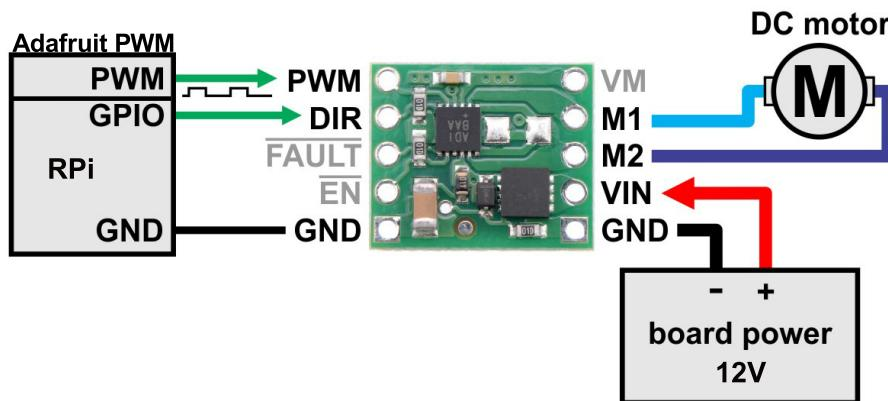

Figure 16: The Motor Driver board and PWM interface diagram. From <https://www.pololu.com/product/2961>
The motor drivers are responsible for controlling the amount of power delivered to the motors, as well as which direction they spin. The MAX14870 (Maxim Integrated Co.) accepts a number of different inputs but our application only uses four: the PWM input, the direction input and power and ground for the motor (figure 16). The PWM comes from the Adafruit PWM driver, while the direction control comes from one of the pins (GPIO) on the RPi. When the joystick is moved from the dead zone3, a value proportional to the displacement of the joystick is generated. Since the PWM has 12 bits of resolution (meaning it has 4096 ( $2^{12}$ ) levels from off to on), numbers from 0 to 4095 represent the levels from fully off (0) to fully on (4095). For instance, if the gamepad joystick is moved halfway between the center position and fully engaged, the value from the joystick will be 2048, and the pulse width proportion will be 50%, or half power. This pulse waveform goes into the MAX14870 where the H-bridge4 pulses 'on' half the time and 'off' half the time, creating the effect of half power. You most likely performed this exact same technique when driving your SeaPerch for the first time, essentially toggling the switches back and forth (pulsing) to change the speed of the vehicle to gain a bit more fine control.